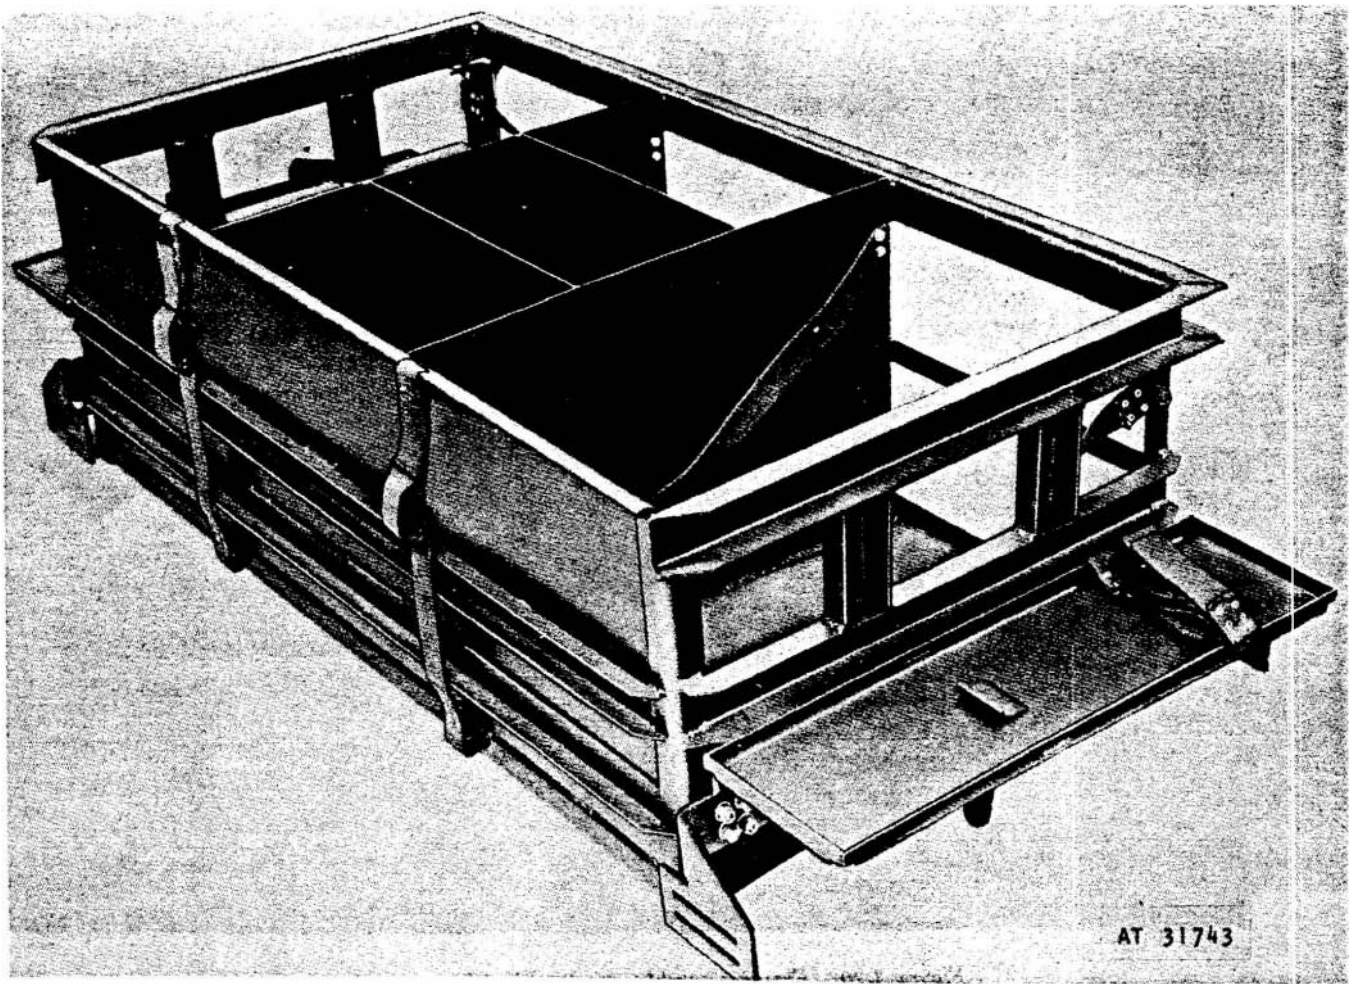

Figure 3-21. Ammunition box assembly mortar kit, 81 mm.
b. Ammunition Box Assembly. The ammunition box assembly (fig 3-21) is mounted by means of brackets to the carrier forward bulkhead and seat